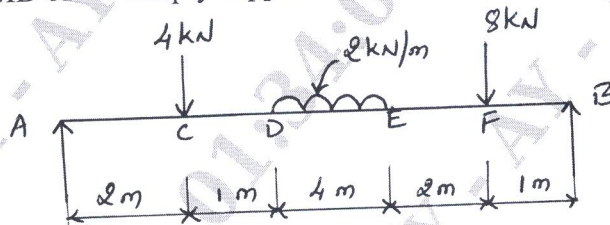

Fig.Q6
- 6 Draw the SFD and BMD of the simply supported beam loaded as shown in Fig.Q6.